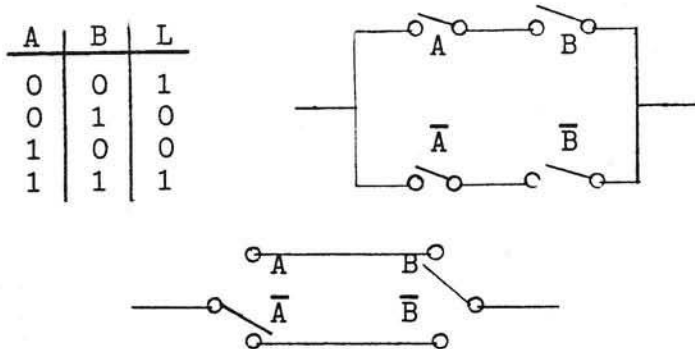

Figure 9: Truth Table and circuit diagram for the coin matcher.
The first step in the design is to construct a truth table (sometimes called a closure table) for the system. We require that when A and B are both on the light is lit, when they are both off the light is lit, but when they have different settings (one on, the other off) the light is off. The truth table we would like to implement is clearly the one shown in Figure 9. This is constructed by first listing the four possible combinations for two switch settings, that is 00, 01, 10, and 11. For each of these switch settings the desired value of L is listed, completing the truth table. It is seen that when the switches "match" then L = 1, otherwise it is 0.
For the first step above and the truth table of Figure 9, we obtain the products  $\bar{A} \cdot \bar{B}$  and  $A \cdot B$  from the first row and the last row, respectively. Step two then gives the equation,
which is the equation for the circuit. It is important for you to verify, by substituting in the various values of A and B given in Figure 9, that this equation does not in fact give the desired values of L.
The final step in the design is to construct a circuit which is equivalent to the equation (4). An examination of this equation indicates that we need two parallel branches, one containing  $\bar{A}$  in the series with  $\bar{B}$ , the other containing A series with B. This circuit is shown in Figure 9. The battery and the light have been omitted for simplicity. Clearly the circuit could be constructed with two SPDT switches.